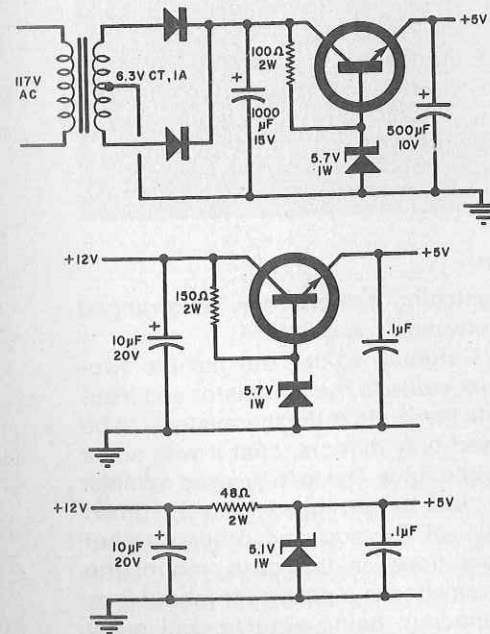

Fig. 2. Three typical power sources for thermometer. Top is for line power, other two are for mobile operation.
**Power Supplies.** Three possible power supplies are shown in Fig. 2. Select the one that suits your needs. Any 5-volt supply that can deliver at least 300 mA can be used. If the digital thermometer is for fishing, use the ac-powered circuit. In this case, omit the transformer and diodes and use a battery holder to mount four 1.35-volt mercury cells, with an spst switch to control power.